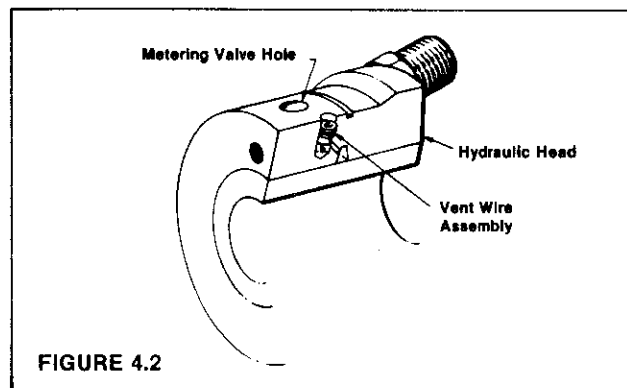

FIGURE 4.2
2. Hydraulic Head - Check the vent wire assembly in the hydraulic head for freedom of movement. If the wire is free, flush the head and blow out all passages with clean, dry air (Figure 4.2). If vent wire is stuck in screw assembly, remove and replace after a thorough cleaning of the assembly and hydraulic head passage.